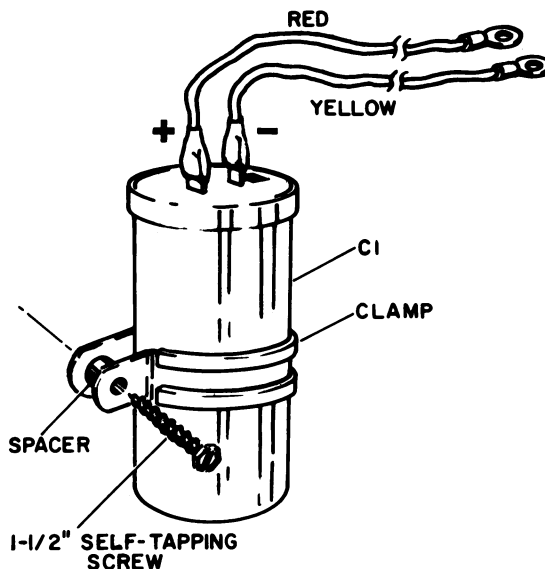

Fig. 3 - Installation of L1
4. Replace the cover on the solenoid assembly, using a 1-1/2" screw and a #8 lockwasher to mount choke L1 on top of the cover. See Figure 3.